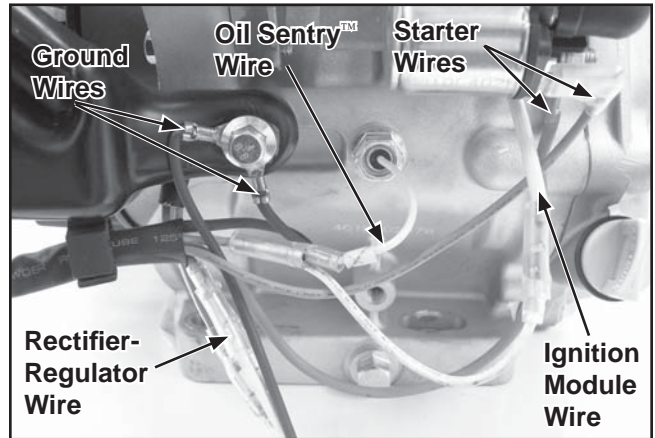

Figure 9-27. Disconnect Wires from Control Panel.
1. Disconnect the wires from the control panel to the starter, Oil Sentry™, ignition module, and the rectifier-regulator. See Figure 9-27.